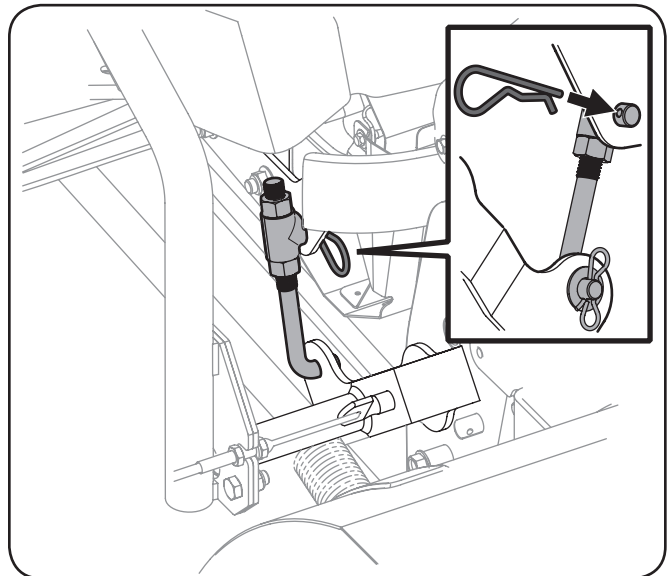

Figure 3-25
4. Remove the hair pin clip from the lift link ferrule. Insert the lift link ferrule into the hole found on the front right area of the bumper and secure it with the hairpin clip just removed. See Figure 3-25.